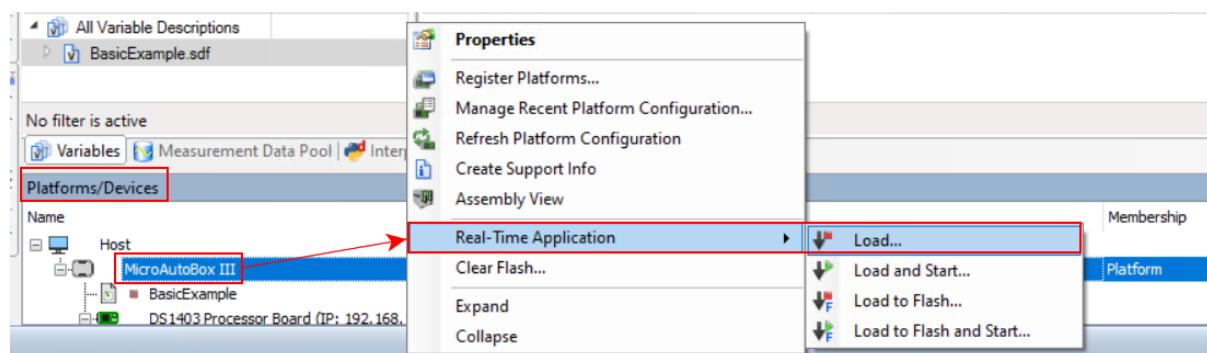
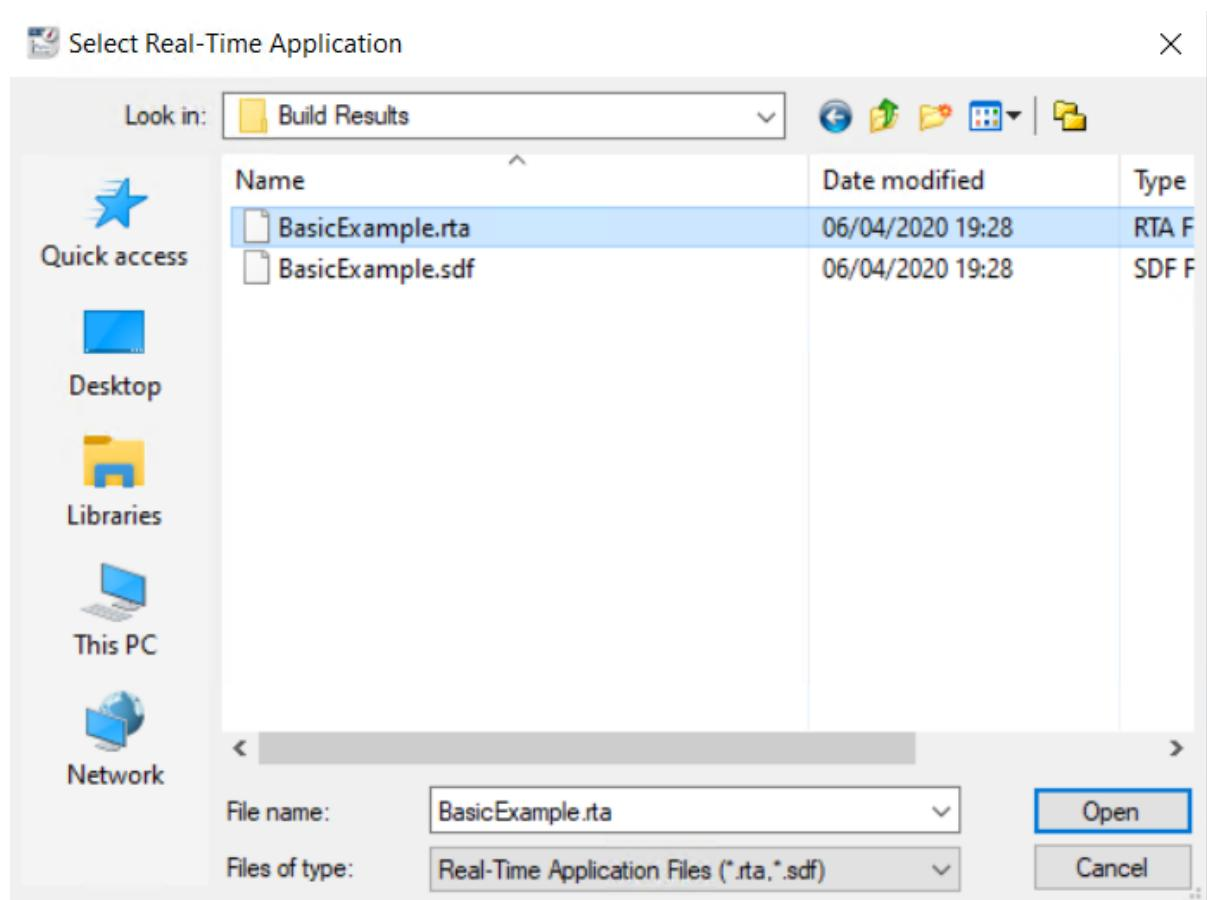

Figure 13.83: Load the application on the dSPACE MicroAutoBox III.
Figure 13.84: Select BasicExample.rta from the ConfigurationDesk project folder.
- 9) Application should have already been loaded from the building of ConfigurationDesk. Otherwise, select the Platforms/Devices tab. Right-Click on your platform and select Real-Time Application>Load. Choose the executable file BasicExample.rta (see Figure 13.83 and Figure 13.84).